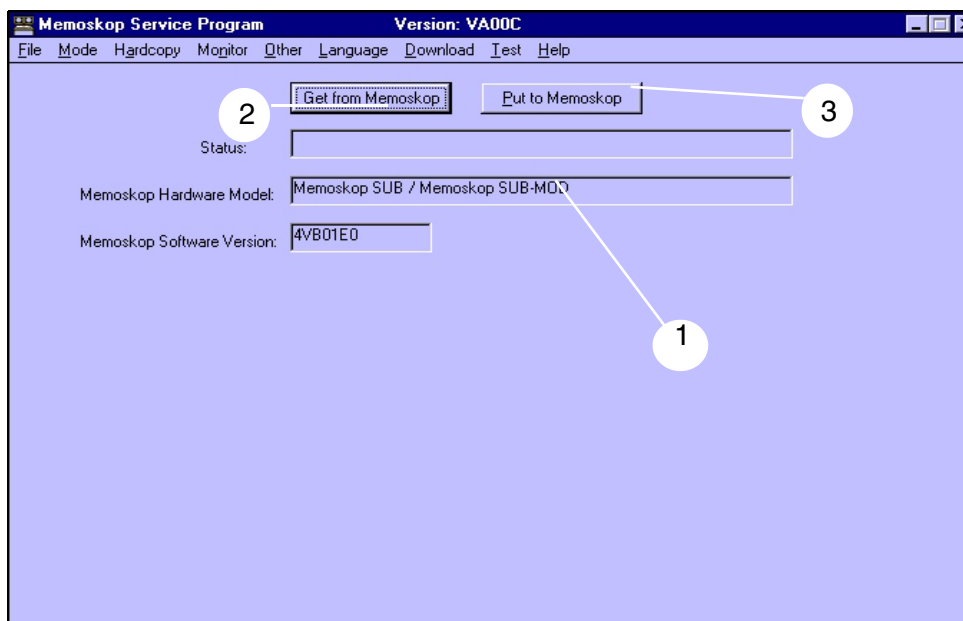

Fig. 3
- The "Memoskop Service Program" program window (Fig. 3) is displayed.
- Insert the software disk matching the installed Memoskop version (1/Fig. 3) in drive A (MEMOSKOP software).